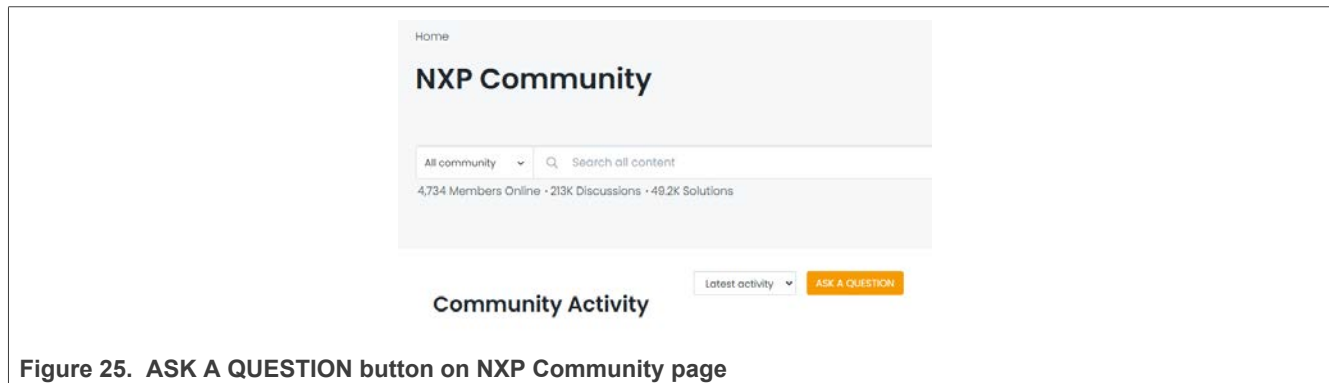

Figure 25. ASK A QUESTION button on NXP Community page
Step 4 – Click **ASK A QUESTION** (Figure 25).